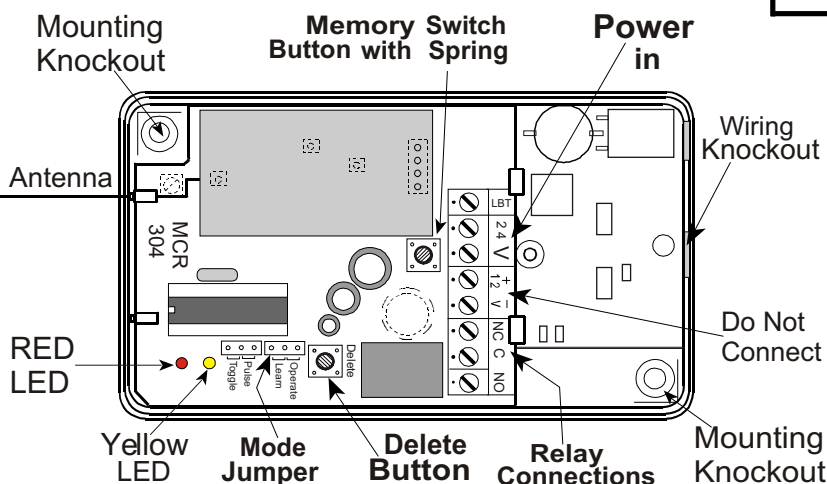

Figure 2. DMR315 with cover removed.
- (A)** Move the **MODE JUMPER** to **LEARN** as demonstrated in the diagram at right. The **YELLOW LED** will start flashing. See Figure 2 for location of jumper.
The memory button is in the middle of the DMR315 See Figure 2 for location